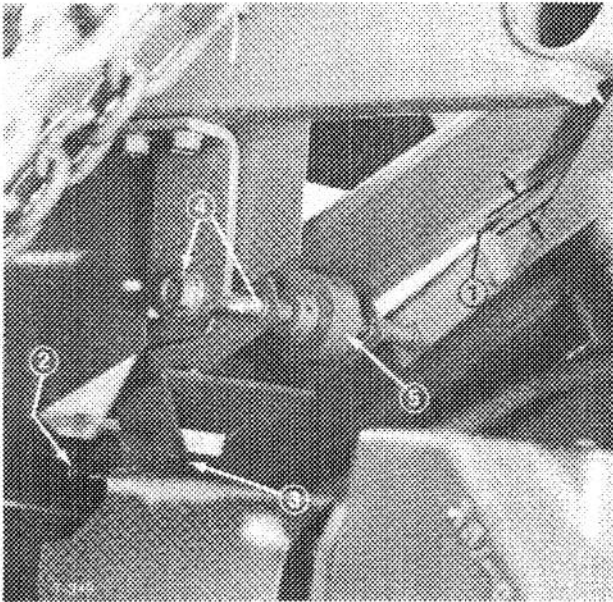

Figure 54
2. Depress traction pedal fully. There must be 1/16 inch (91.6 mm) between inside front edge of pedal and triangular support brace (Fig. 54). If distance is as specified, the control rod is adjusted correctly. If distance is not as specified, proceed to step 3 for an adjustment.
3. Loosen jam nut away from front of control rod (Fig. 54). Remove cotter pin and slotted nut retaining tapered socket in pivot mount on bottom of traction pedal (Fig. 54).
1. Loosen two nuts securing traction pedal shaft on right side of pedal (Fig. 54).